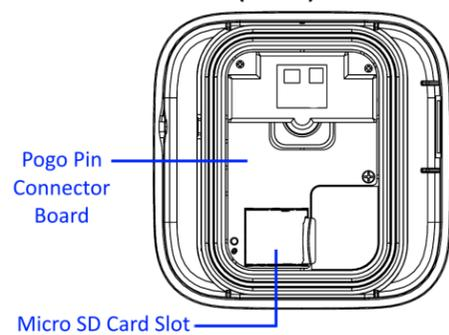

Figure-1: RJ45 Wires in T-568B Order —
- b) Terminate the wire with an RJ45 jack according to the T-568B order. Strip 1" of the jacket to expose the 4 wire pairs, use the pull string to remove 2" more and cut away the jacket and string, trim the jacket corners, untwist the wire pairs, line up the wires in the T-568B order (see **Figure-1** below), cut the wires to 3/4" with a straight cut, and then slide the RJ45 jack down over the 8 wires.